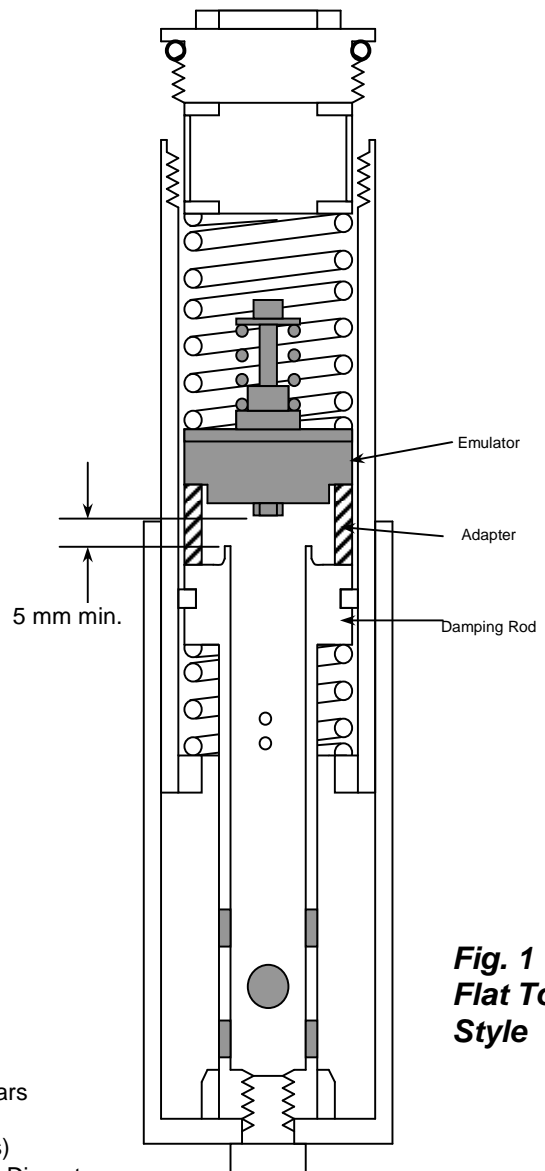

Fig. 1
- **Adapter Height** – The adapter must be tall enough to allow 5 mm (0.200") clearance between the top of the hole in the damping rod and the bottom of the jam nut on the Emulator. (fig 1)